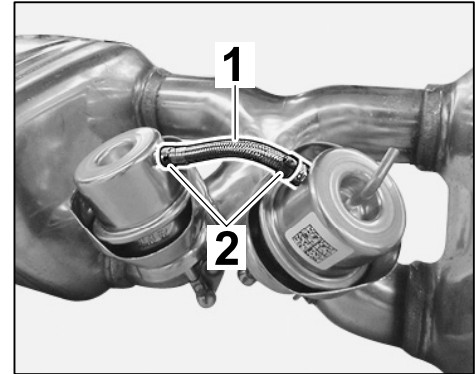

Figure 18
- 3.1 Fit 80-mm steel flexi-pipe ⇒ *Figure 18 -1-* on the connections between the vacuum units.
Lock single-lug clips ⇒ *Figure 18 -2-*.